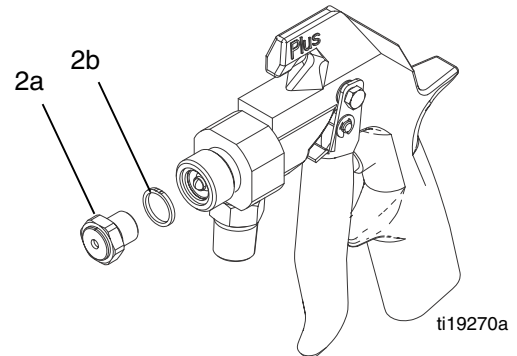

FIG. 6
3. Unscrew the valve seat (2a). Remove the gasket (2b). See FIG. 6.